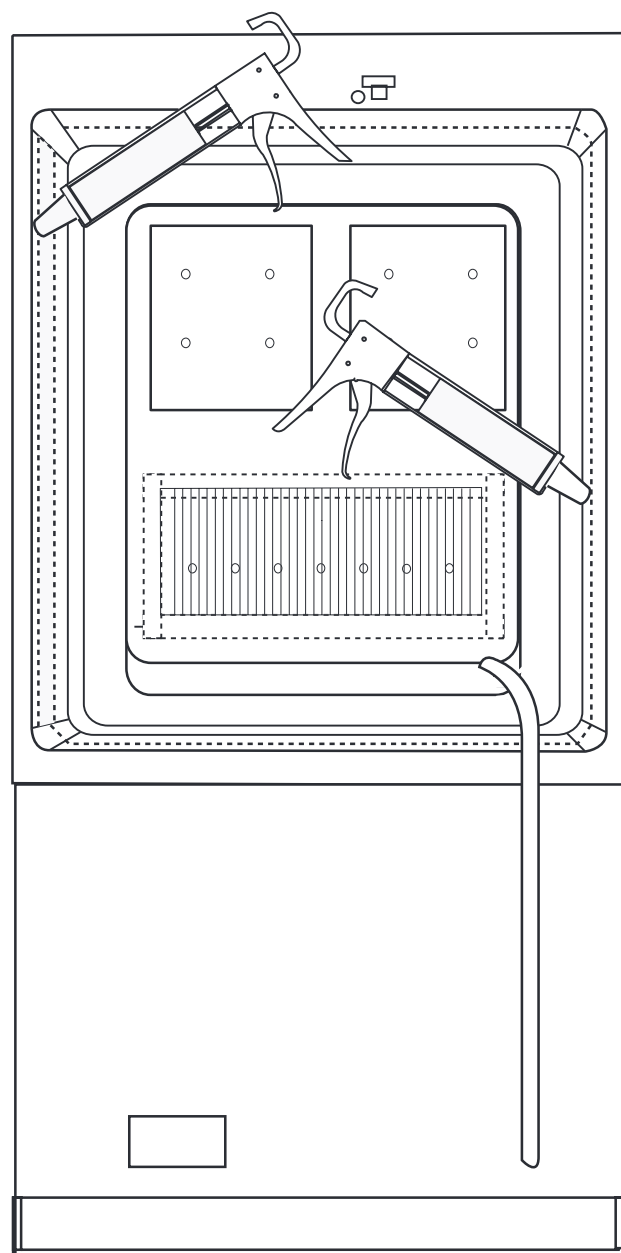

Figure 8-7. —Sealant application on cabinet opening sides.
2. Apply 3/4 inch wide x 1/2 inch thick bead of Thermal Mastic sealant on the four sides of the cabinet opening. See Figure 8-7, page 71.